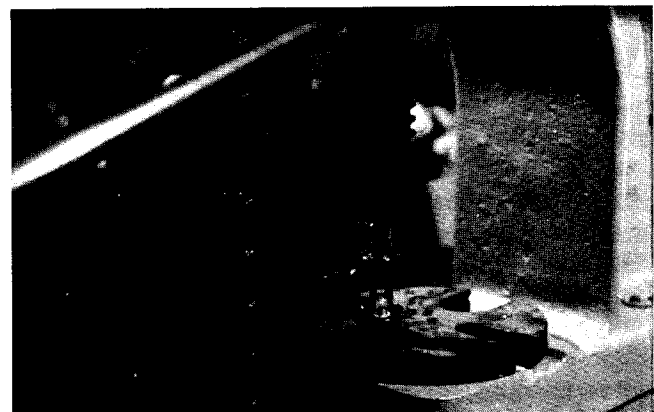

Figure 36
4. Use an arbor press to remove bedbar pivot bushings (Fig. 36). DO NOT hammer on pivot boss of bedbar without support. You will break the casting.
5. Press center pivot bushings into place (Fig. 36). DO NOT hammer on pivot boss of bedbar without support. You will break the casting.